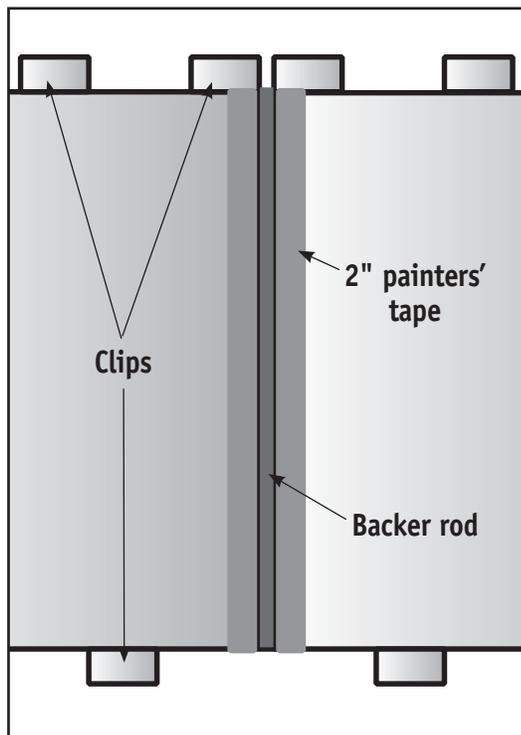

Figure 14
See **Figure 14**.
**Figure 14** is an overhead view of the backer rod inserted into the caulk joint.